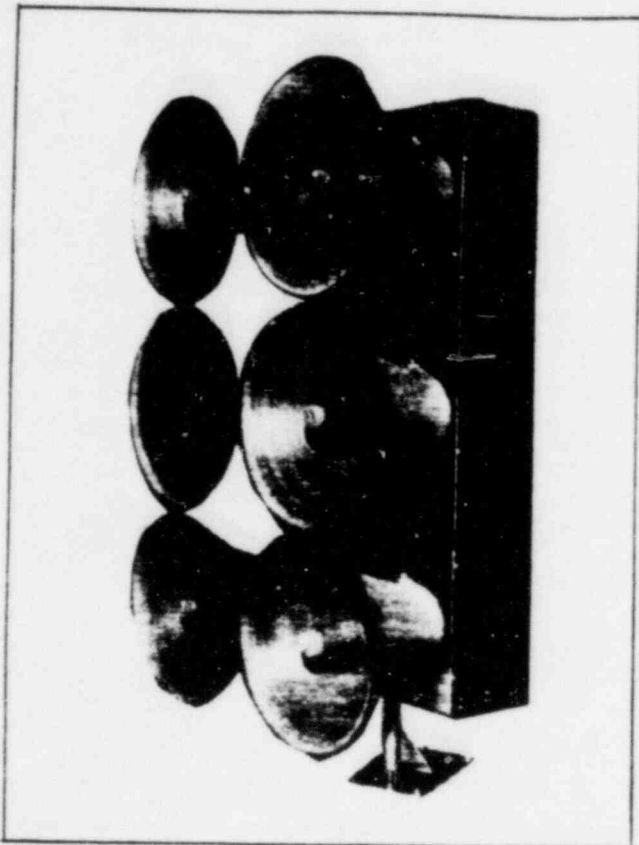

Figure 1-4. Model EOWS*612 Speaker Array.
3. Model EOWS*612 (figure 1-4). The Model EOWS*612 rotating uni-directional speaker array uses six exponentially flared re-entrant, spun aluminum speaker projectors. The rotator mechanism rigid bearing assembly, idler bearings, brush and collector rings and speaker drivers are all located in the sectional protective enclosure. This enclosure has sectional rear panels for easy servicing. Each speaker circuit has four brush contacts which provide continuous reliable energy transfer and stall free rotation of the array.